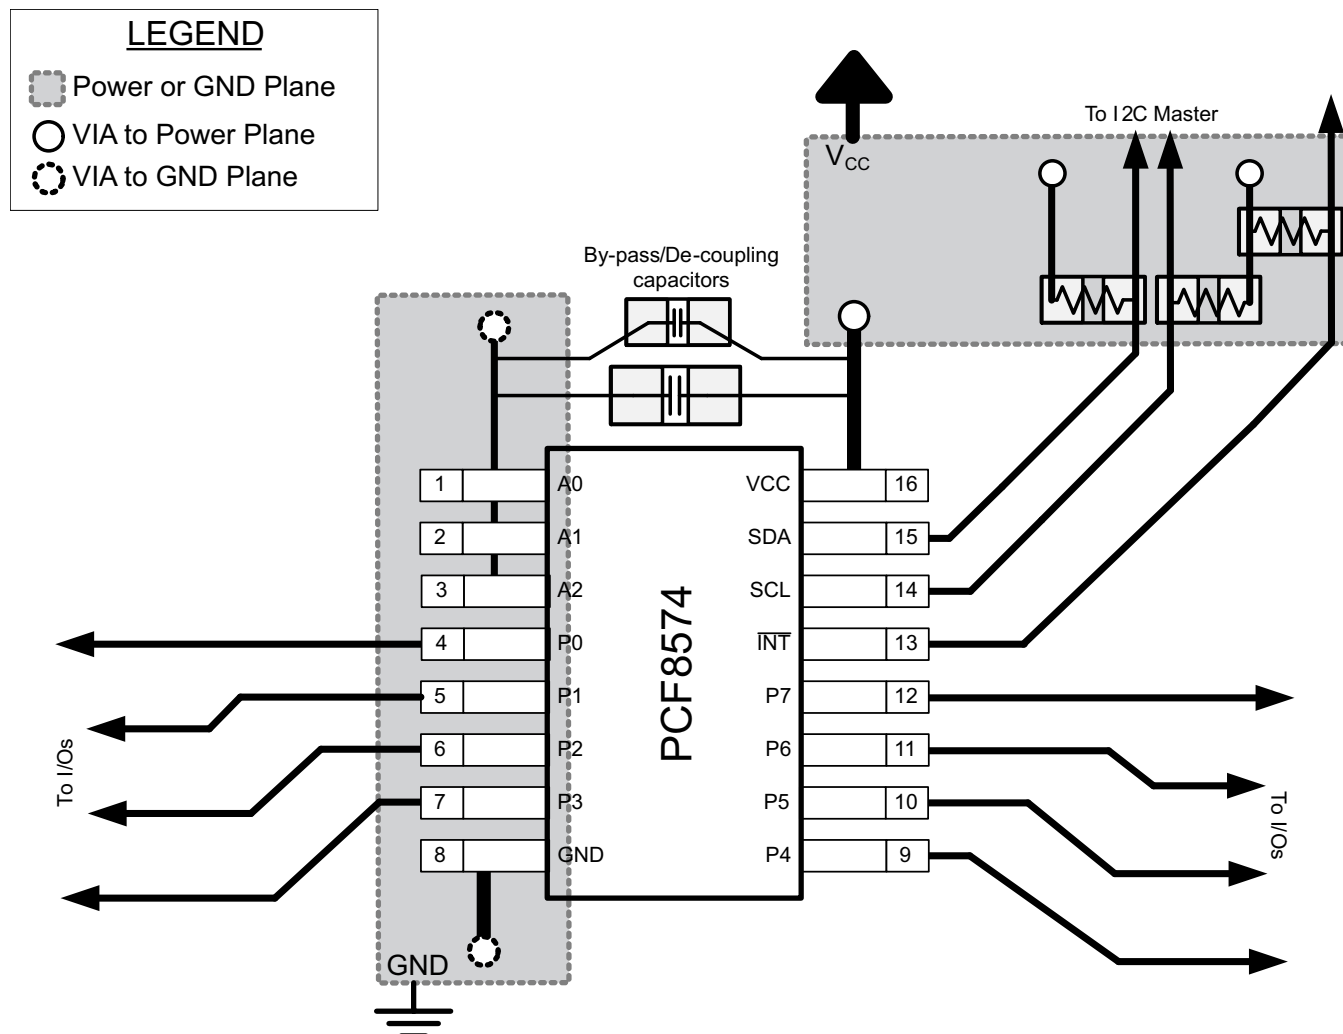

Figure 27. Layout Example for PCF8574
In all PCB layouts, it is a best practice to avoid right angles in signal traces, to fan out signal traces away from each other upon leaving the vicinity of an integrated circuit (IC), and to use thicker trace widths to carry higher amounts of current that commonly pass through power and ground traces. By-pass and de-coupling capacitors are commonly used to control the voltage on the VCC pin, using a larger capacitor to provide additional power in the event of a short power supply glitch and a smaller capacitor to filter out high-frequency ripple. These capacitors should be placed as close to the PCF8574 device as possible. These best practices are shown in Figure 27.
For the layout example provided in Figure 27, it would be possible to fabricate a PCB with only 2 layers by using the top layer for signal routing and the bottom layer as a split plane for power (VCC) and ground (GND). However, a 4 layer board is preferable for boards with higher density signal routing. On a 4 layer PCB, it is common to route signals on the top and bottom layer, dedicate one internal layer to a ground plane, and dedicate the other internal layer to a power plane. In a board layout using planes or split planes for power and ground, vias are placed directly next to the surface mount component pad which needs to attach to VCC or GND and the via is connected electrically to the internal layer or the other side of the board. Vias are also used when a signal trace needs to be routed to the opposite side of the board, but this technique is not demonstrated in Figure 27.